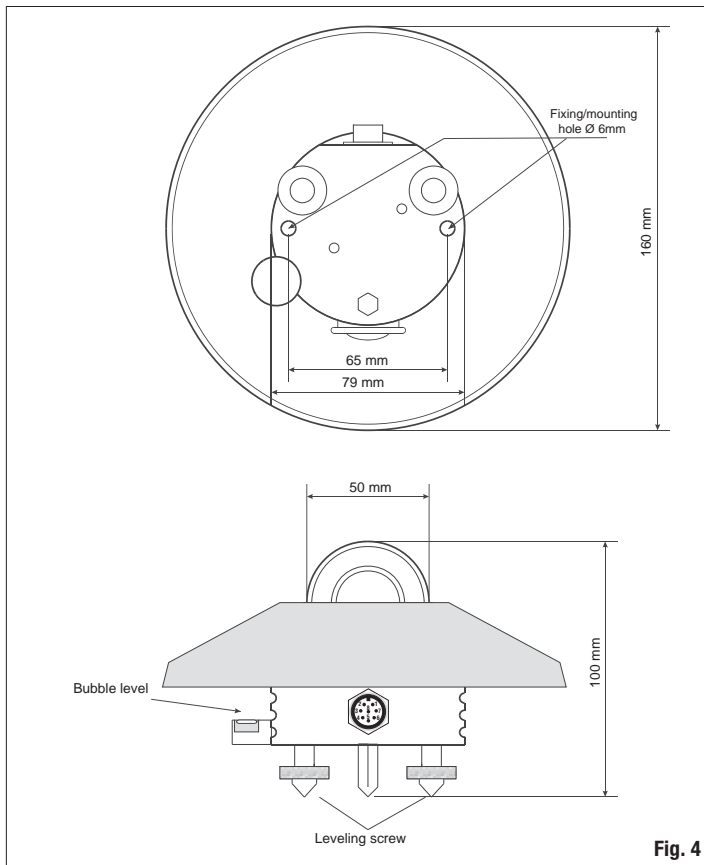

Fig. 4
- The LP UVB 02 radiometer is provided with a spirit level for carrying an accurate horizontal leveling. The adjustment is made by means of two leveling screws that allow to adjust the radiometer inclination. Use the two 6mm-diameter and 65mm-interaxial-distance holes to mount the instrument on a plane. Remove the shade disk to access the holes and reposition it after mounting (see Fig. 4).